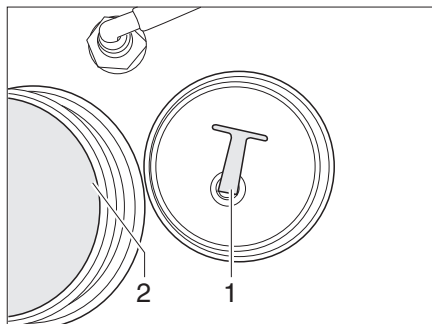

Fig. 340 Stopper
- Screw the stopper (Fig. 340,1) out of the drainage opening (Fig. 340,2). The water drains off.